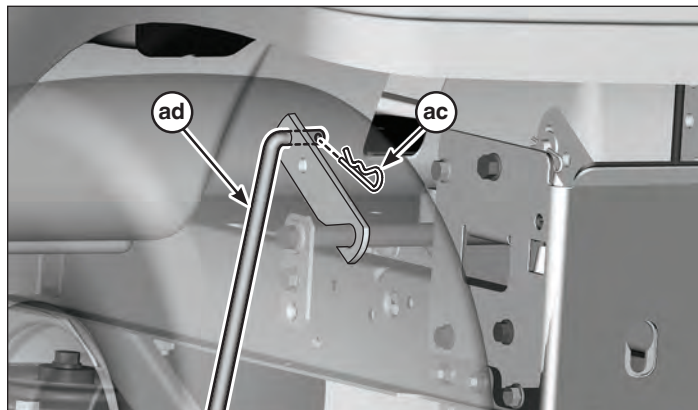

Figure 25
- Remove the hair pin (ac, Figure 25) from lift rod (ad).